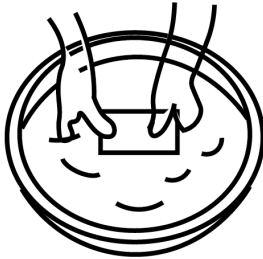

Figure 20
- Carefully wash the filter in lukewarm soapy water, Fig. 20.